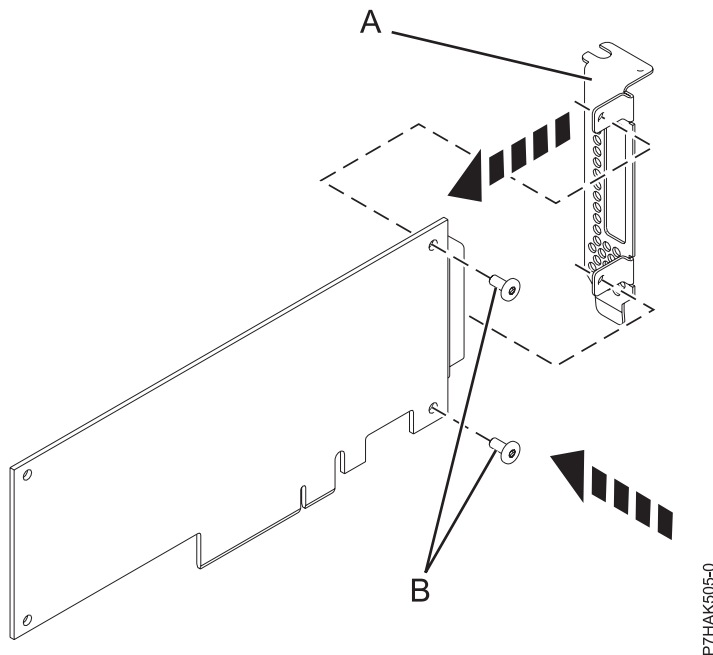

Figure 34. Attaching the low-profile tailstock to a PCI adapter
11. Using a Phillips screwdriver and the two retaining screws (B), attach the tailstock (A) from the failed PCI adapter onto the new PCI adapter. See Figure 34.